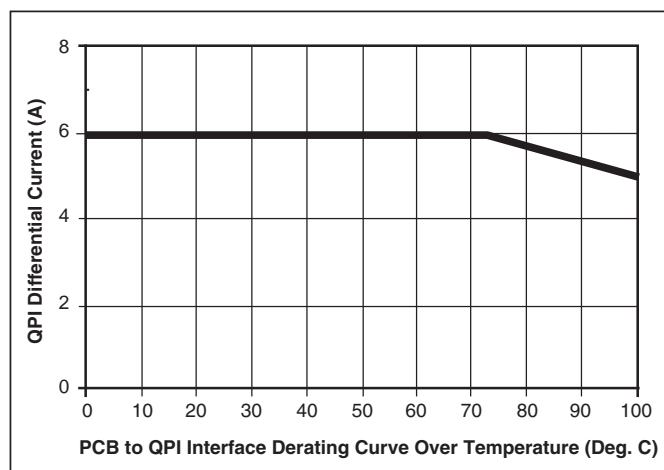

Figure 5 – QPI-8 current derating curve over temperature.
- -40° to +100°C PCB temperature (see Figure 5)
Note 2: Refer to Figure 5 for current derating curve.
The QPI-8 6 Amp rating provides filtering for up to 288 Watts of power from a 48 V bus with a 70°C PCB temperature. It is well suited for the 200 Watt per board limit in the PICMG® 3.0. The 1.0" x1.0" x 0.2" surface mount LGA package provides ease of manufacturing by eliminating through-hole assembly. The current derating curve shown in Figure 5 should be used when the PCB temperature that the QPI-8 is mounted to exceeds 70°C.